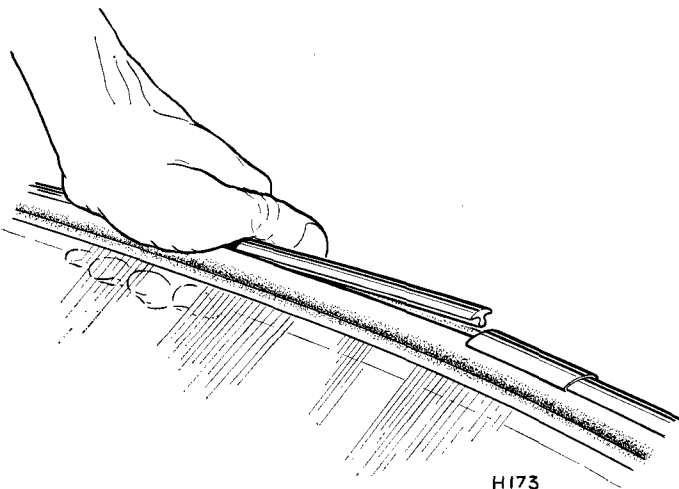

Fig. 80. Fitting windscreen moulding
4. Press both sections of the moulding into place and secure them by sliding the cover plates over the ends of the moulding (Fig. 80).